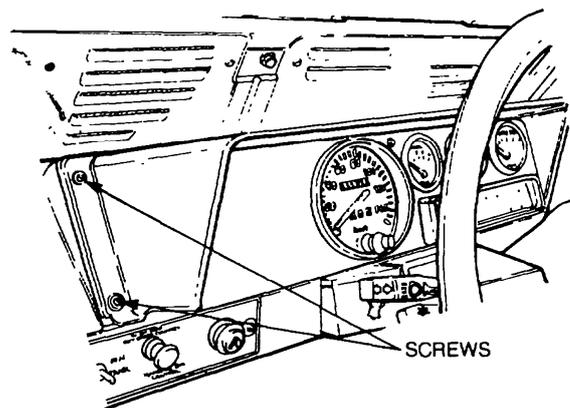

Figure 192 Instrument Panel Light Bulb Replacement
- b. Remove the four screws retaining the instrument panel (Figure 192).